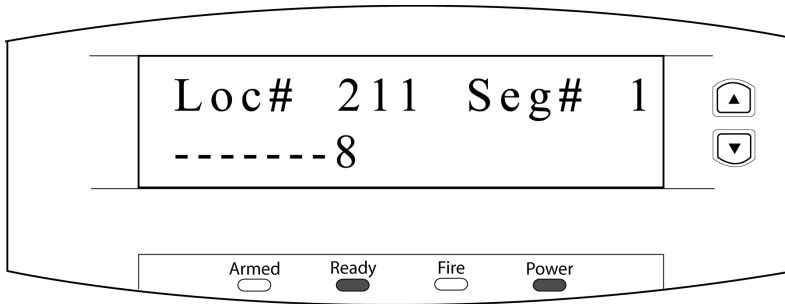

Figure 11: Alarm Panel - Location 211, Segment 1
4. Enter the location for Programming the Command/Request Enables, which is **2** **1** **1**, followed by the **#** key. This location has four segments that must be configured. For Location 211, Segment 1, only option number 8 should be on. Once completed, the LCD will look similar to Figure 11.